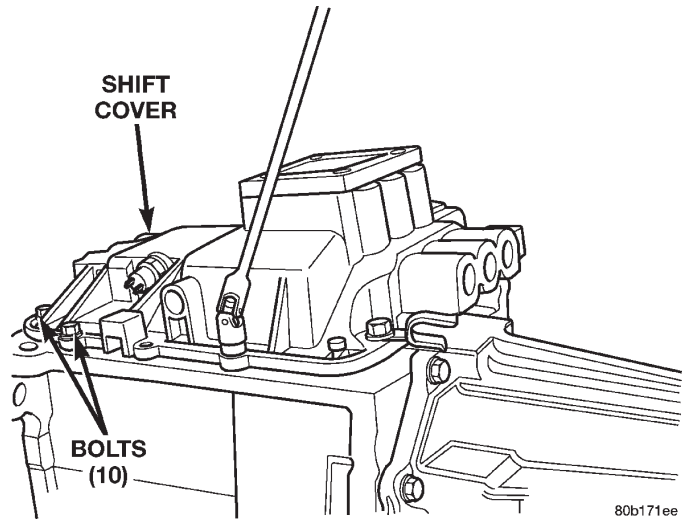

Fig. 12 Shift Cover Bolts
- (1) Remove transmission from vehicle.
- (2) Remove shift cover bolts (Fig. 12).